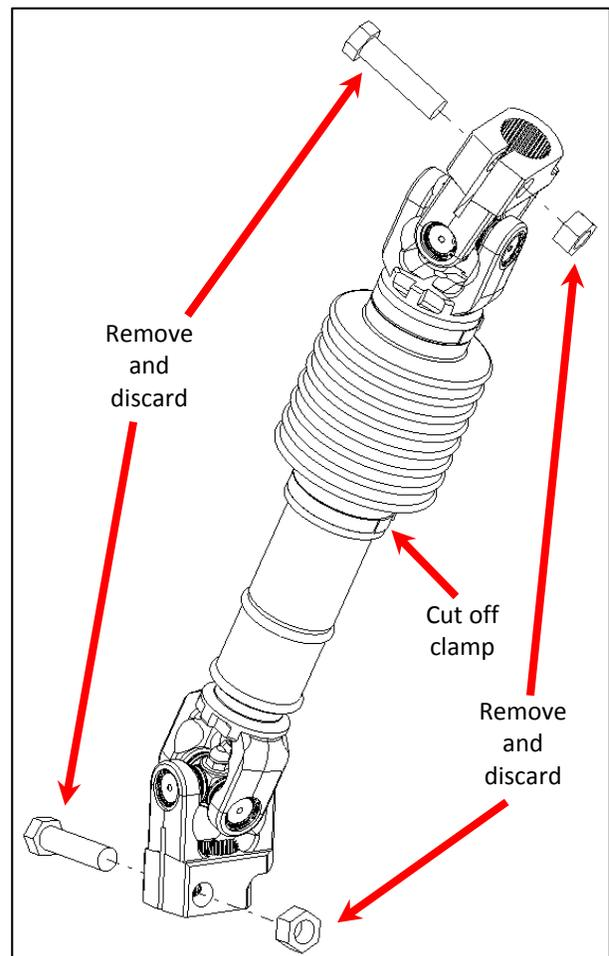

Fig. 3
3. Remove pinch bolt and nut from upper portion of intermediate shaft. Discard bolt and nut. (Fig. 3)
4. Remove pinch bolt and nut from lower portion of intermediate shaft. Discard bolt and nut. (Fig. 3)
7. Cut off bellows clamp on lower section of intermediate shaft. (See Fig. 3)